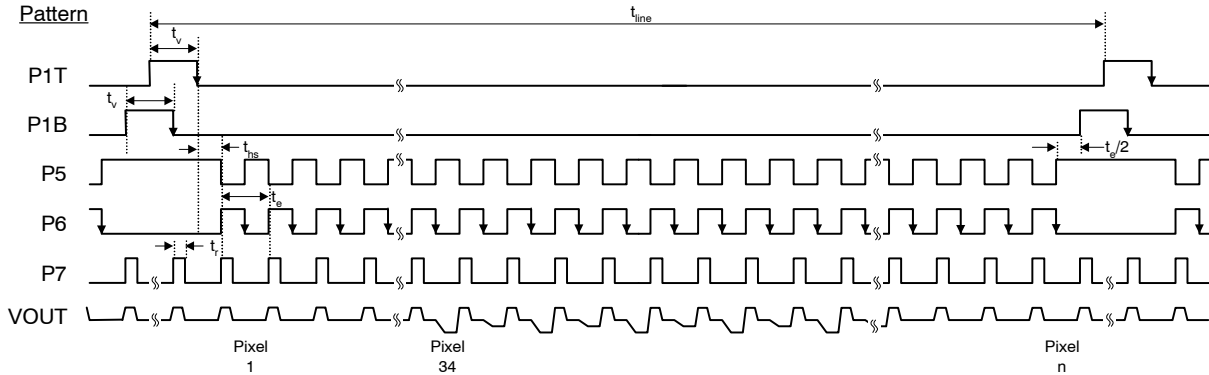

**Figure 20. Photodiode Transfer Timing**
1. Refer to timing diagrams as shown in Figures 20, 21, 22, 23 and 24.
The timing sequence for the clocked device pins may be represented as one of seven patterns (P1–P7) as shown in the table below. The patterns are defined in Figure 20 and